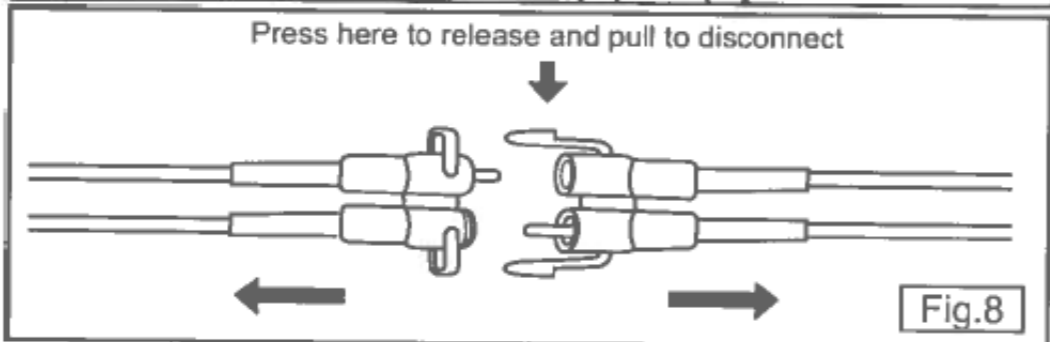

Fig.8
8. Disconnect the battery cable from the housing cable (if not already disconnected - the cable will be disconnected when you buy your SEASCOOTER™) by pressing the locking feature, as shown in figure 8.
2. Unplug the battery at the socket by pressing the locking feature shown in figure 8.